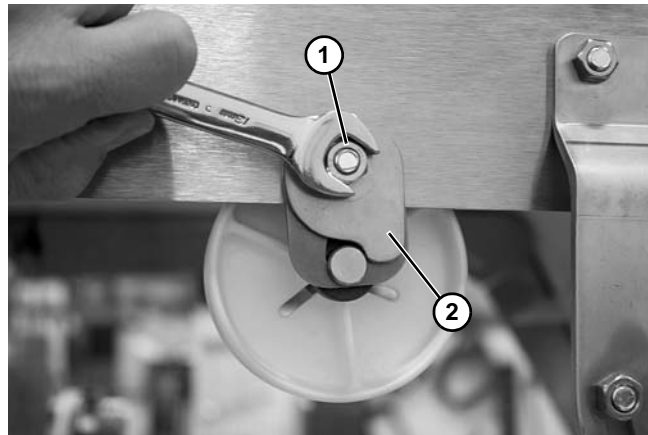

Figure 90
1. Loosen nut (Figure 90, item 1) and rotate return clip (Figure 90, item 2) up on both sides of conveyor. Loosely tighten nuts to hold clip in place.